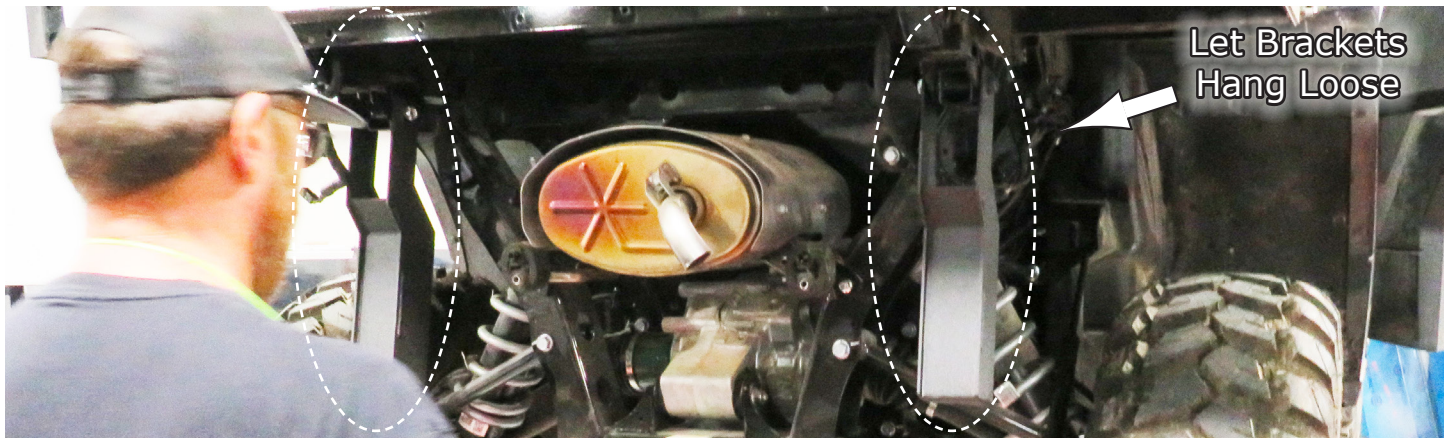

Fig.13
13. Install both left and right **Support Brackets** and do not tighten the bolts yet, just let them hang down as you will next be installing the **Bumper** onto them. See Fig.13 below.